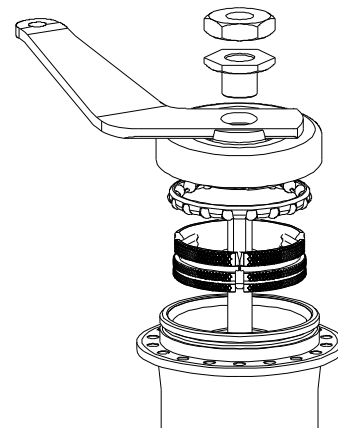
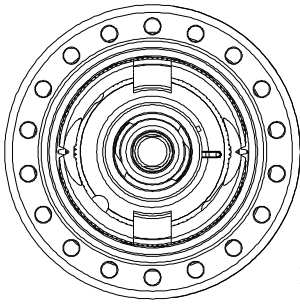

Fig. 1
Fig. 4
3. (See Fig.1) Clamp right hand end of axle in a vice and unscrew the left hand cone locknut, and brake arm nut. Remove the left hand cone, brake arm assembly, and brake shoes. Remove the brake actuator assembly by turning hub-shell clockwise. Remove hub from vice.
6. Clamp right hand end of axle in vice and fit brake actuator assembly to left hand end of axle, turning clockwise to ensure the internal screw threads engage with planet cage. Fit the brake shoes such that the two protrusions are uppermost (see Fig. 1), the tag of the brake actuator drag spring lines up with one of the cut outs, and the two segments with the small diameter downwards. Fit the axle key (ensuring threaded hole is evenly spaced (See Fig. 4). If the brake actuator drag spring has been replaced, ensure that the tag faces upwards. Ensure that all brake parts are coated with grease to Sturmey - Archer Technical Standard SA103E.
7. (See Fig. 1) Fit ball cage assembly, with balls facing down. Fit left hand cone, lining up the slot on the underside of the cone (See Fig. 5) with the brake actuator drag spring tag. Slide over the axle to engage tag, checking the cone is correctly seated by rotating slightly ensuring that it engages with the brake shoes (see Fig. 5). Fit brake arm assembly, brake arm locknut and locknut. Adjust hub as described in Part 2. Remove hub from vice.